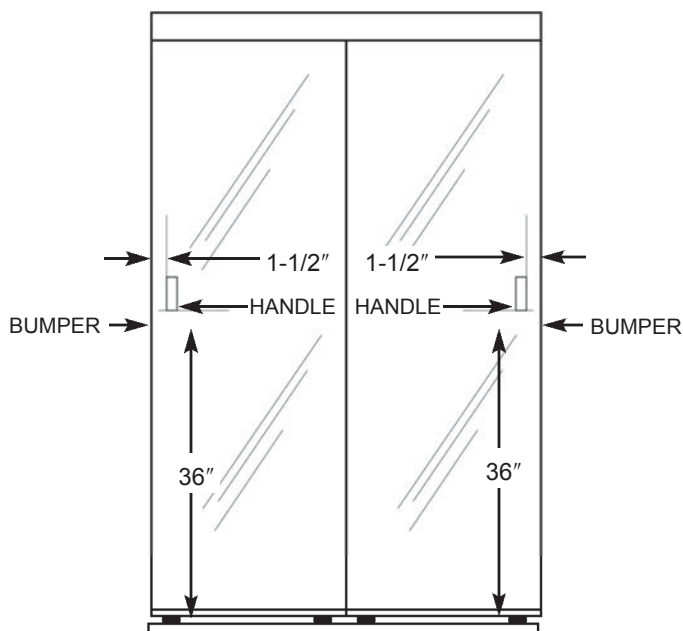

Figure 5
Peel paper off the back of the Clear Plastic Bumpers (#8) and place on the edge of the panel frame 36" up from the bottom. The Bumpers (#8) will cushion and protect the door and wall when you close the wardrobe doors (See Figure 5).
- A. Clean the mirror in the area where the Mirror Handles (#7) will be applied. Peel paper off the back of the Mirror Handles (#7). Position each Handle 36" from the bottom of the Panel (#1) and 1-1/2" from outside edge of the Side Mold (#11) (1/2" in from the Glazing Vinyl (#16) on each Panel (#1) (See Figure 5).